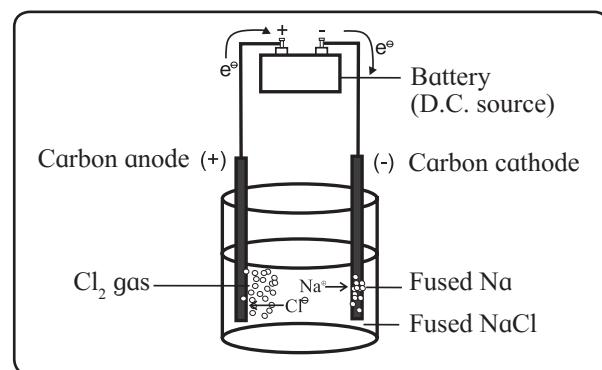

Fig. 5.4 : Electrolysis of fused NaCl
Construction of cell : The electrolytic cell consists of a container in which fused NaCl is placed. Two graphite electrodes are immersed in it. They are connected by metallic wires to a source of direct current that is battery. This is shown in Fig. 5.4.
5.5.2 Electrolysis of aqueous NaCl : Electrolysis of an aqueous NaCl can be carried out in the cell used for the electrolysis of molten NaCl using inert electrodes shown in Fig. 5.4. The fused NaCl is replaced by moderately concentrated aqueous solution of NaCl. The water involved in electrolysis of aqueous NaCl, leads to electrode reactions that differ from electrolysis of molten NaCl.